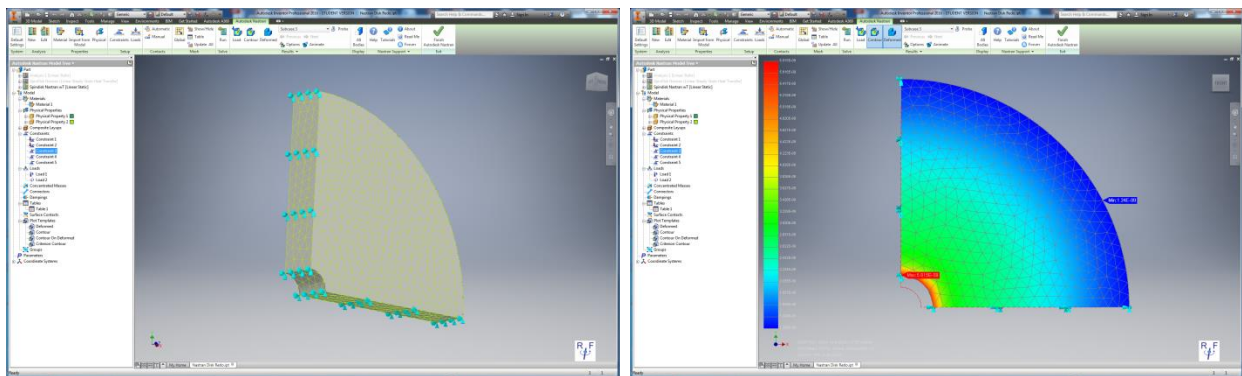

Figure 4.5c Boundary conditions for structural analysis – left panel, and resulting maximum principal stress contours – right panel.
0.08435 about the z-axis. The resulting model with boundary conditions should appear as in the left panel of Fig 4.5c. The resulting maximum principal stress contours from the structural analysis are shown in the right panel of Fig 4.5c.